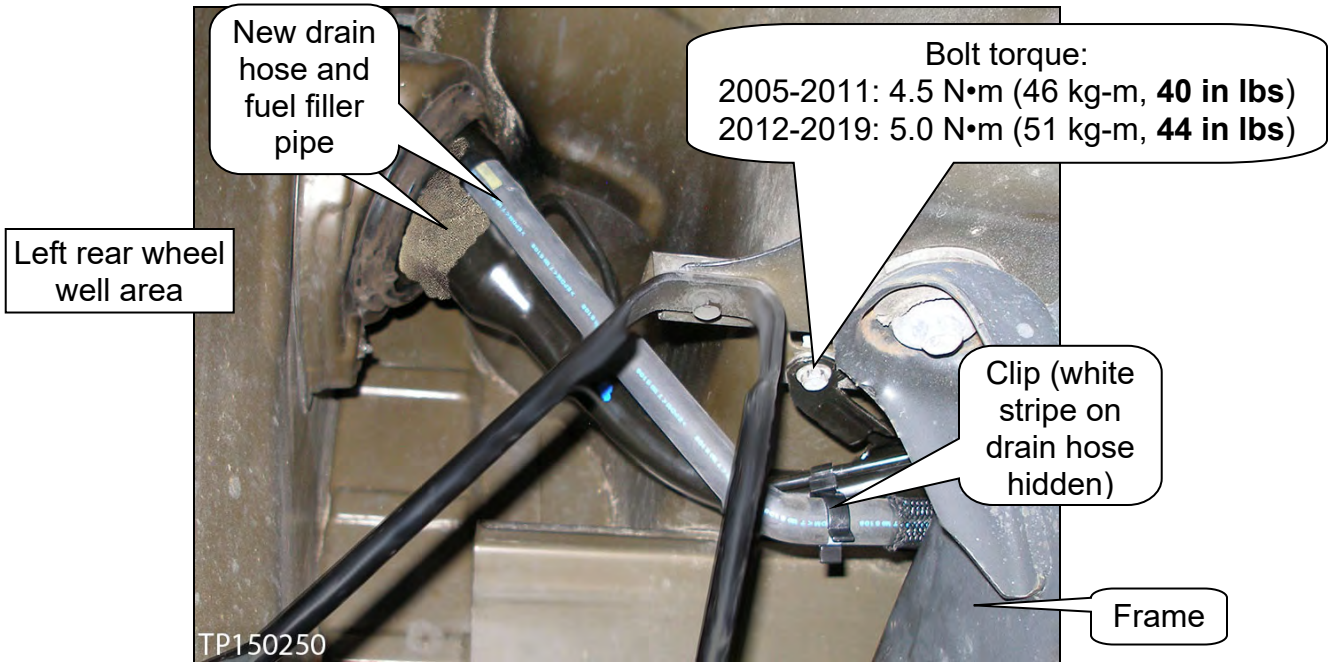

Figure 10: King Cab and long wheel base Crew Cab
- Connect and route the new drain hose to the fuel filler pipe (see Figures 10 and 11, as they apply).